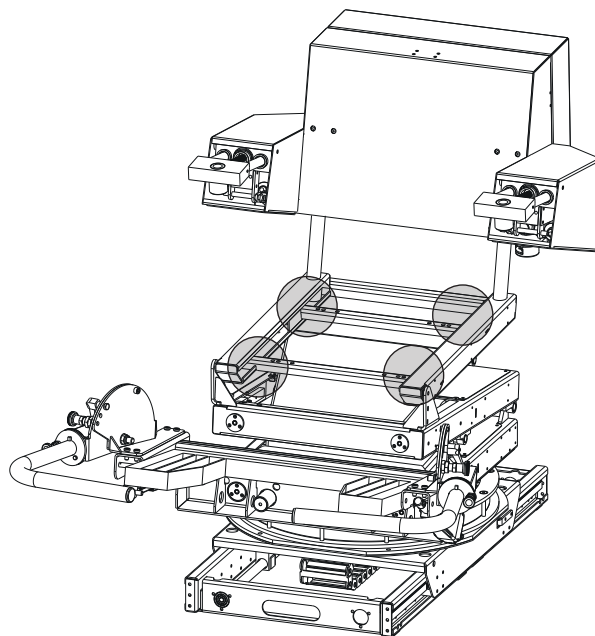

Figure 23. Lifting points
2. Fasten the lifting straps diagonally to at least 2 of the lifting points shown in Figure 23.
- Fasten the lifting straps diagonally to at least 2 of the lifting points shown in *Figure 23 „Lifting points“*, page 70.